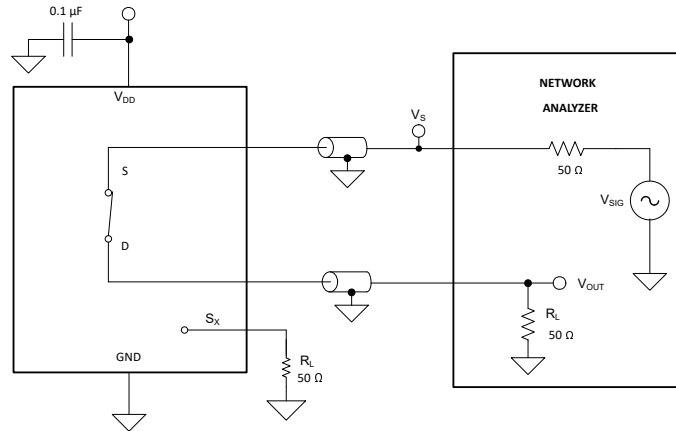

图 8-7. Bandwidth Measurement Setup
Bandwidth is defined as the range of frequencies that are attenuated by less than 3 dB when the input is applied to the source pin (Sx) of an on-channel, and the output is measured at the drain pin (D) of the device. 图 8-7 shows the setup used to measure bandwidth.